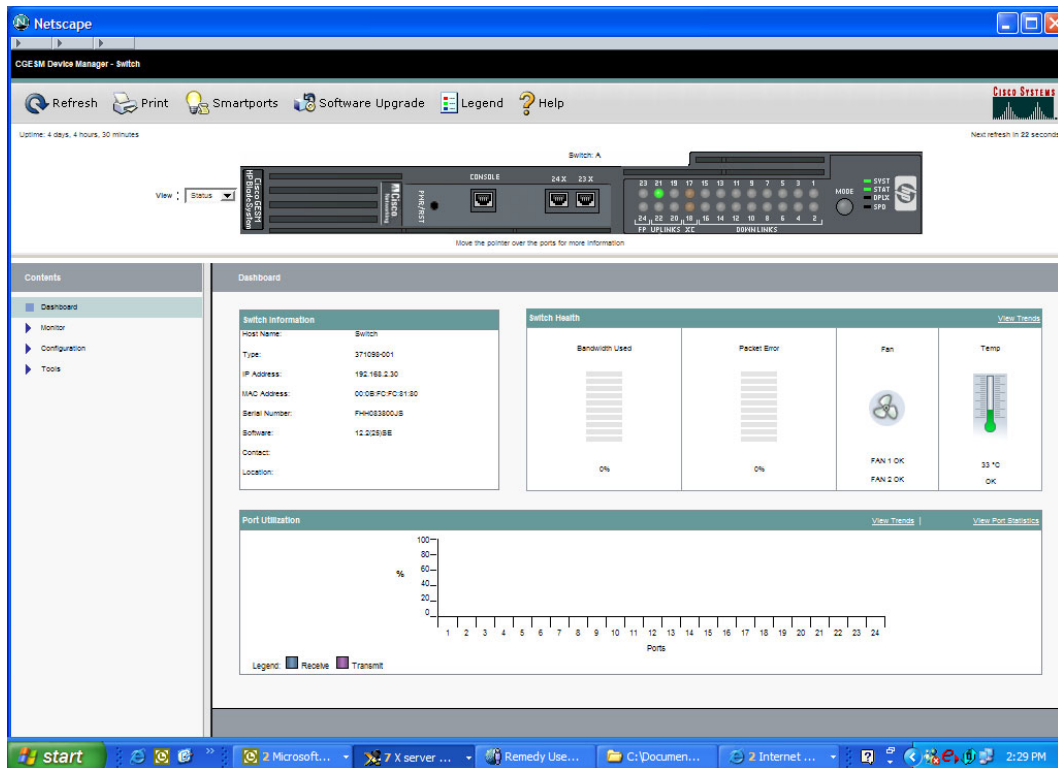

Figure E-7: CGESM Device Manager Window
2. Enter the IP address of your switch (for example: 192.168.2.30). The switch Device Manager window appears, as shown in Figure E-7.